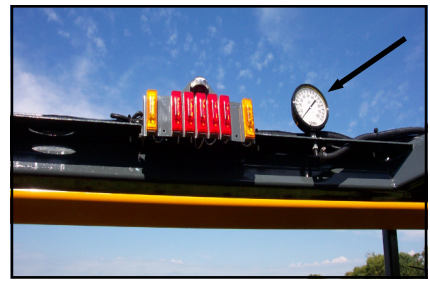

FIG. 49-1
**SOLUTION PRESSURE GAUGE**– The pressure gauge (fig. 49-1) gives you the operator a constant visual display of the amount of solution being applied (measured in PSI). The pressure, as determined by the pulse width modulated control valve, will vary according to ground speed. If applying solution manually, the solution pressure gauge visually informs the operator of needed manual adjustments. The gauge also shows when there is a drop in pressure indicating that the solution tank maybe empty or there is a problem with the system.